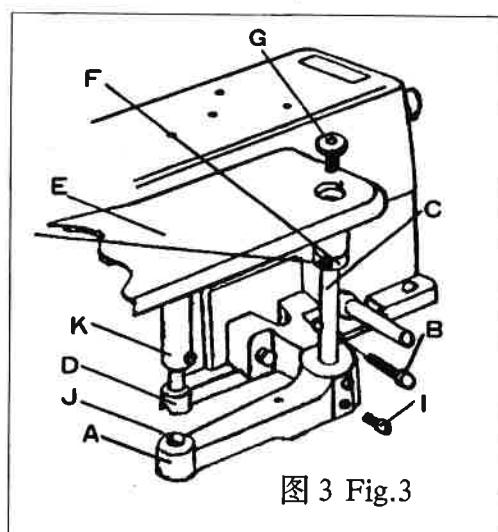

图 3 Fig.3
(4) 托板组件的安装(图 3)
① 用支座螺钉 "B" 将支座 "A" 固定在机头上(顶销 "J" 和长、短弹簧片已先组装好听).
② 将轴肩螺钉 "G" 旋入托架轴 "C" 的螺孔中并紧后将托架轴从上向下插入支座孔中,再套上挡圈 "F",旋紧挡圈螺钉 "H",使托架轴定位,但转动应灵活.
- ③ 将定位销“D”插入定位套筒“K”的孔中,用螺钉按定位方向固定.
- ④ 将托架轴“C”插入支座右孔中,调节好托板“E”高度后旋紧螺钉“I”。
- ⑤ 开闭托板应灵活,能自锁.
(4) Fitting work plate components(Fig.3)
① Fix bracket "A" on machine head with bracket screw "B" (Spring pin "J", short and long spring leaves are already assembled).
② First turn collar screw "G" up tight into the hole of work plate shaft "C", and then insert the work plate shaft into the hole of the bracket, finally put on retainer ring "F" and tighten retainer ring screw "H". Be sure to make the shaft rotate smoothly while securing the work plate shaft in place
③ Insert positioning pin "D" into the hole of positioning sleeve "K" and turn it up tight with screw in direction of location.
④ Insert work plate shaft "C" into the right hole of the bracket, after regulating the height of the work plate "E", tighten screw "I".
⑤ Be flexible to open or close work plate; capable of auto-lock control of it.